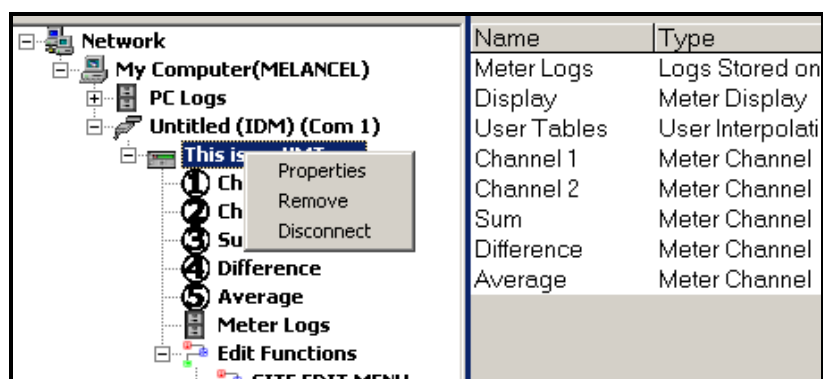

Figure 2-4: The *Properties* Option in the *New Meter Browser*
2. Right-click on the highlighted XGS868i and click on the *Properties* option, as shown in Figure 2-4 below.